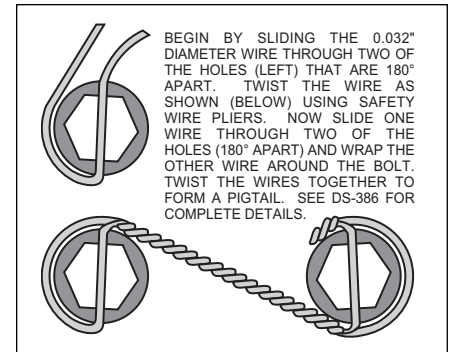

Figure 4. Safety Wire Diagram
•With the larger I.D. side of the rotor (5) facing away from the hat (6), bolt rotor (5) to hat (6) through the backside of the rotor using washers (7) and bolts (8). Torque bolts (8) in an alternating sequence to 120-144 **in-lb**. Safety wire bolts (8) using standard 0.032 inch diameter stainless steel safety wire as shown in Figure 4. Please refer to Wilwood's data sheet DS-386 (available at www.wilwood.org/ds386.pdf) for complete safety wire installation instructions. Slide the rotor/hat assembly onto the spindle. Install a couple of lug nuts (finger tighten) to keep the rotor/hat assembly in place while continuing with the installation.
•**NOTE:** Please reference the caution statement at the beginning of the assembly instructions. Install one washer (12) over each pre-installed stud (13) on the radial mount bracket (1). Slide the caliper (9) in place over the studs and rotors and install the washer (11) and lock nut (10) to hold the caliper in place. The caliper bleed screws should be pointing up. Snug the lock nuts (10) and check that the rotor (5) is centered in the caliper (9). Add or subtract .02" shims (3) as necessary between the spacer and the spindle to center the caliper (9).
•Remove the caliper quick-clip pad retainer from the caliper. Remove the protective material from the adhesive side of the anti-squeal shims (14) and place against the backing plate side of the brake pads (15) utilizing the contour of the backing plate as a guide. Secure material to backing plate by bending the four tabs over the edge of the backing plate. Slide the brake pads (15) with the shims into place. They should install easily without interference. Check that the outside radius of the brake pad is aligned with the outside diameter radius of the rotor face. Add or subtract shims (12) between the caliper and mount bracket to gain the proper alignment. Reinstall the quick-clip pad retainer.
•Once all clearances have been checked, remove the wheel, caliper, hat, and rotor from the spindle and hub. Secure the caliper mounting bracket (1) to the spindle with bolt (2) using red *Loctite*® 271 supplied in the spindle bracket mounting bolt kit. Torque the bolts to 47 ft-lbs. Reinstall the hat and rotor assembly and again use several lug nuts to hold it in place. Lubricate caliper mounting studs and nuts with lightweight oil, reinstall the caliper, torque the caliper nuts (10) to 30-35 ft-lb.